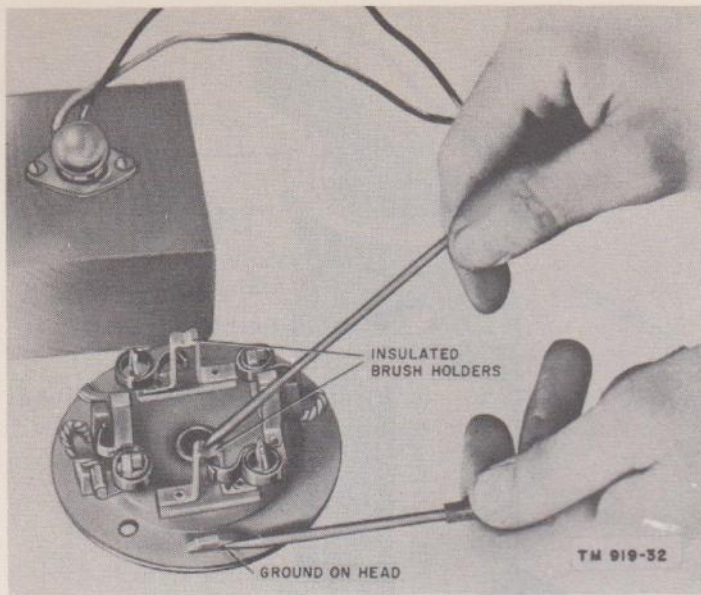

Figure 32. Testing brush holder for grounds (starting motor).
4. Using test probes, touch each insulated brush holder with one probe, and a convenient ground on the commutator end plate with the other probe, as shown in figure 32. If the lamp lights, a ground is indicated and the brush holder must be replaced.